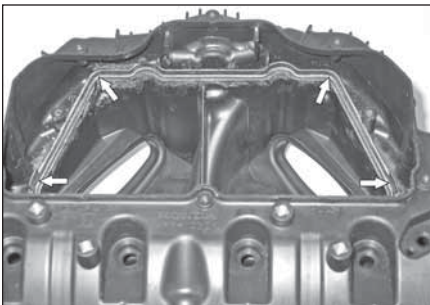

Fig 3.
4. Remove the stock o-ring where the air filter seats. (Fig.3)